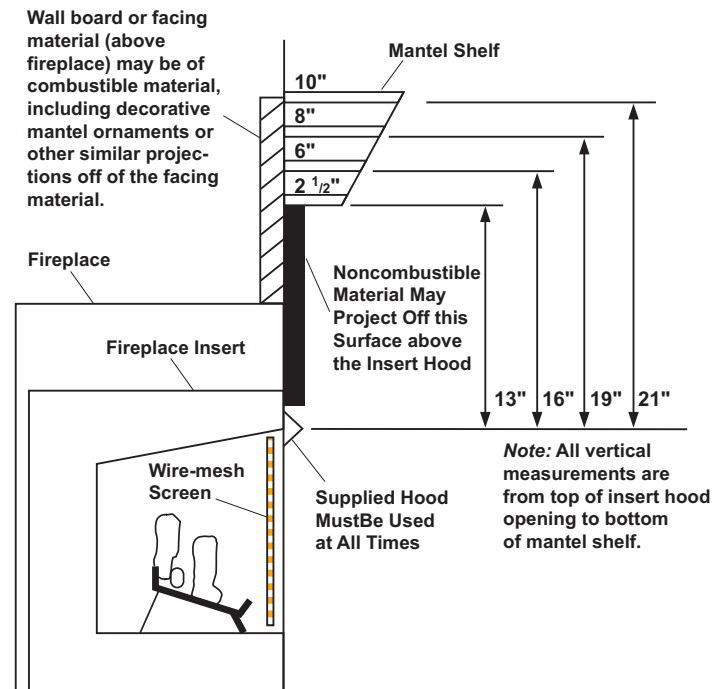

Figure 12 - Minimum Mantel Clearances for Fireplace Insert Installation
A. Clearances from side of fireplace cabinet to any combustible material and wall should follow diagram in **Figure 12, Page 12**.
If there is a mantel above masonry fireplace, you must meet minimum clearance between mantel shelf and top of fireplace opening (see **Figure 12**).
If using a mantel above the fireplace, you must follow the clearances shown in **Figure 12, Page 10**. Follow instructions below to install fireplace insert in this manner.